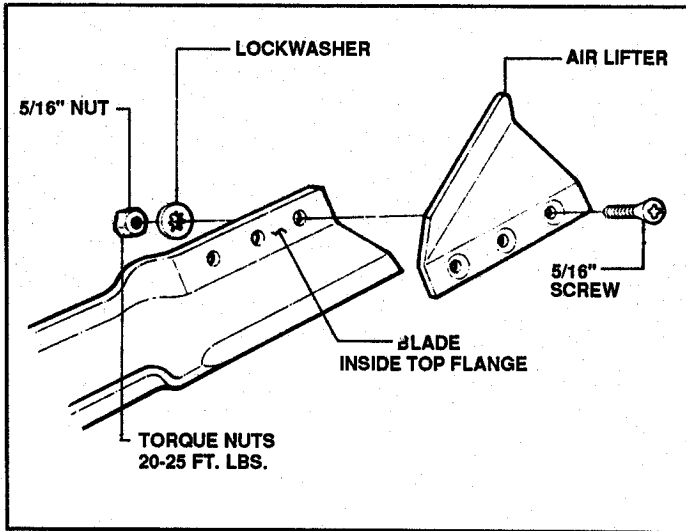

FIGURE 3.10
- Install air lifters on INSIDE TOP flange of blade with 5/16" screws, lockwashers and nuts. See Figure 3.10.